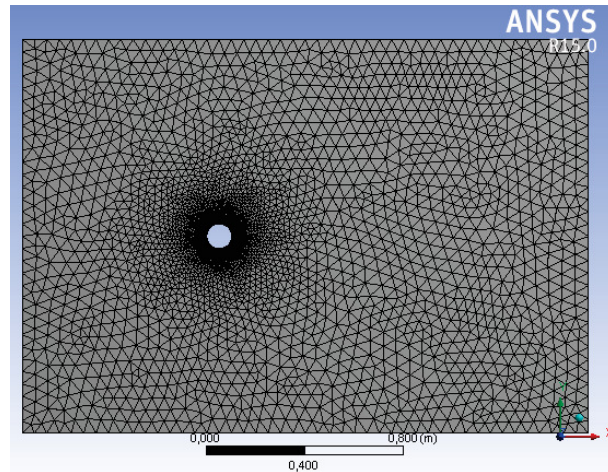

FIGURE 3 – Triangle mesh generated with the curvature size function and edge sizing of the cylinder surface. This mesh has 9715 cells.
The purpose of this part is to generate the unstructured triangle mesh shown in Fig. 3, which is refined around the cylinder surface in order to resolve the fine vortical structures in the boundary layers and the wake. To do so, **Ansys Meshing** use the following strategies :
- 2) Generate the mesh. You may observe that the size function has detected the cylinder surface as a highly curved boundary and has refined the mesh in its vicinity⁵. However, the mesh is not as fine near the boundary as the one in Fig. 3.
- 3) Add **Local Meshing controls** : insert an **Edge Sizing** method in order to control the cell distribution on the cylinder surface with **Number of Divisions** : 200. The mesh generated will be similar to the one in Fig. 3.